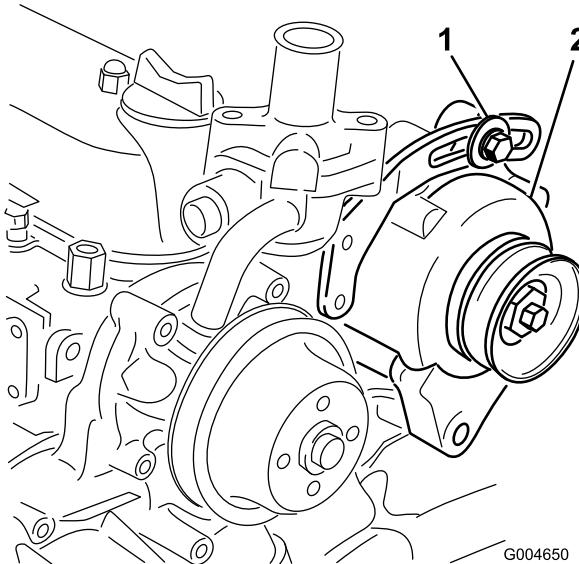

Figure 68
2. If the deflection is not 10 mm (3/8 inch), loosen the alternator mounting bolts (Figure 68).